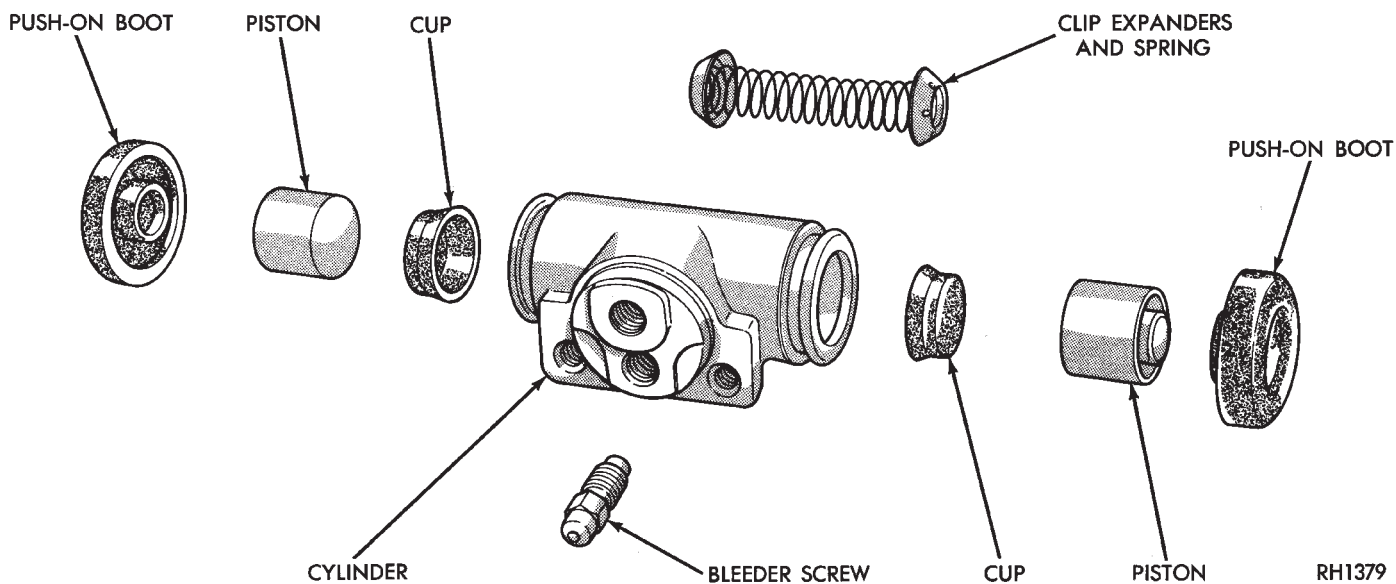

Fig. 3 Rear Wheel Cylinder
To disassemble the wheel cylinders, (Fig. 3) proceed as follows:
(1) Coat cylinder bore with clean brake fluid.
(2) Install expansion spring with cup expanders in cylinder. Install cups in each end of cylinder with open end of cups facing each other (Fig. 3).
(3) Install piston in each end of cylinder having the flat face of each piston contacting the flat face of each cup, already installed (Fig. 3).
(4) Install a boot over each end of cylinder. **Be careful not to damage boot during installation.**